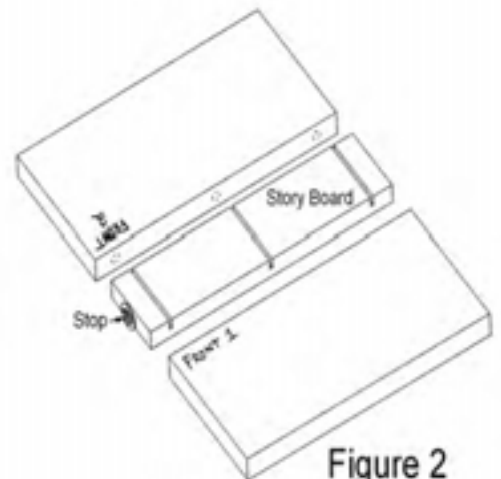

Figure 2
- 1- Layout on your stock the mortise slot locations (Fig 2). The ChestMate Jig will clamp stock up to 2 3/4 inches wide.